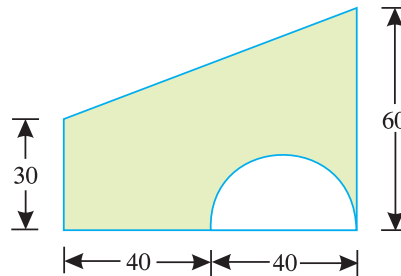

Fig. 6.24.
**Example 6.14.** A semicircular area is removed from a trapezium as shown in Fig.6.24 (dimensions in mm)